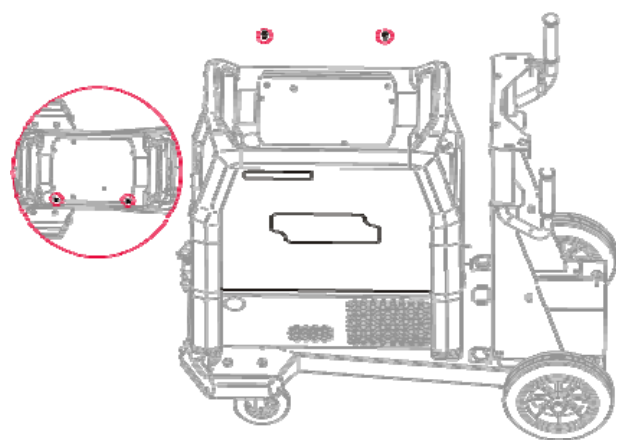

Figure 5
- Place the side panel (Figure 5).
- Assembly the side panel screw the two M5x20 screws (Figure 5).